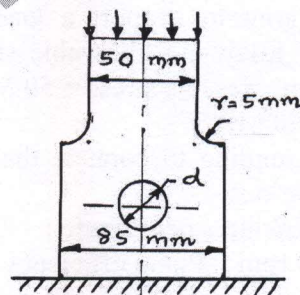

Fig. Q2 (b)
- b. Find the diameter of the hole shown in Fig. Q2 (b), if the stress concentration factor at the hole is to be same as at the fillet. (04 Marks)